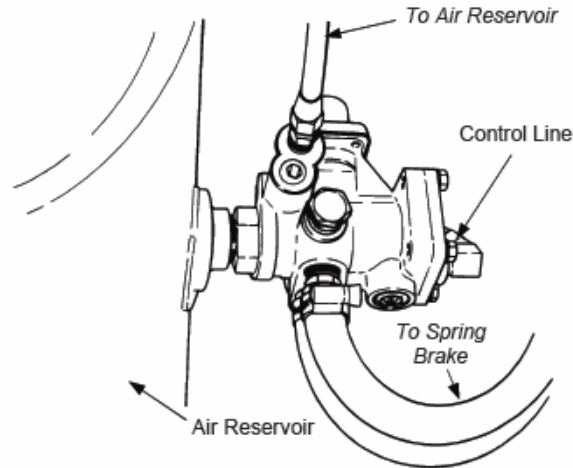

Figure 6 Spring Brake Control Valve Mounting
- c. Tag and disconnect all supply, delivery and exhaust lines at the spring brake valve (Figure 6).